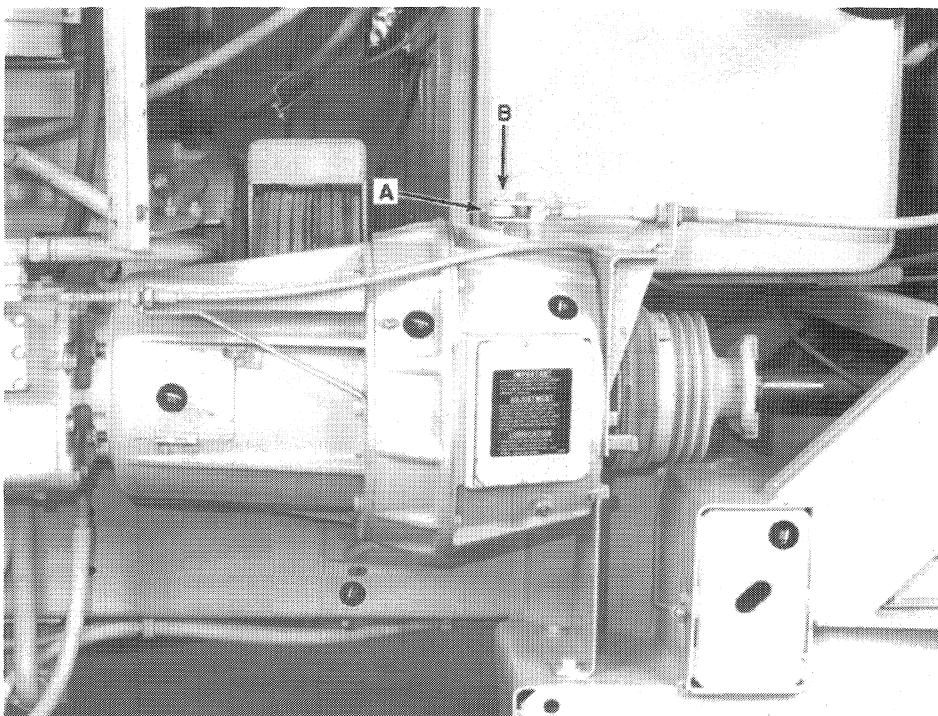

FIGURE 1-23
9. Install the cutterhead clutch cable. Adjust the cable so the clutch lever, A, Figure 1-23,